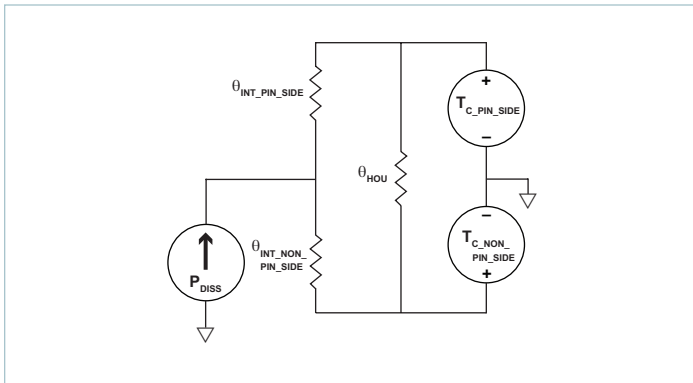
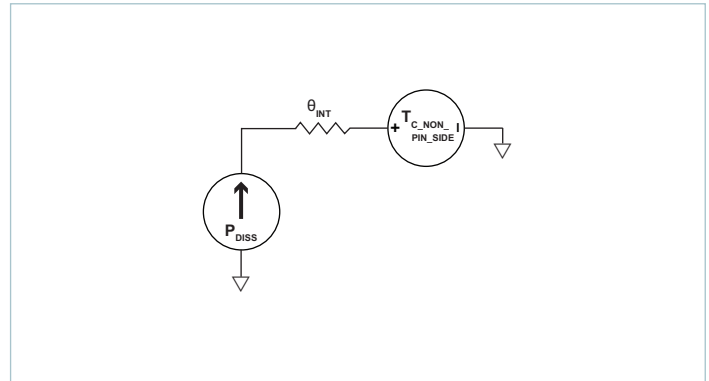

Figure 22 — Double-sided cooling thermal model
Figure 23 — Single-sided cooling thermal model
The VIA package provides effective conduction cooling from either of the two module surfaces. Heat may be removed from the pin-side surface, the non-pin-side surface or both. The extent to which these two surfaces are cooled is a key component for determining the maximum power that can be processed by a BCM, as can be seen from the specified thermal operating area in Figure 1. Since the BCM has a maximum internal temperature rating, it is necessary to estimate this temperature based on a system-level thermal solution. For this purpose, it is helpful to simplify the thermal solution into a roughly equivalent circuit where power dissipation is modeled as a current source, isothermal surface temperatures are modeled as voltage sources and the thermal resistances are represented as resistors. Figure 22 shows the “thermal circuit” for the BCM in a VIA package.
- Single-side cooling: the model of Figure 22 can be simplified by calculating the parallel resistor network and using one simple thermal resistance number and the internal power dissipation curves; an example for non-pin-side cooling only is shown in Figure 23.